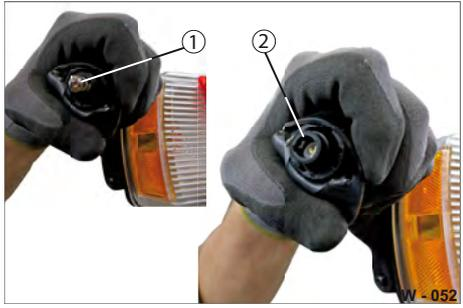

Fig. 60 Replacing the lamp
- ▶ Unscrew the defective lamp (Fig. 60/1).